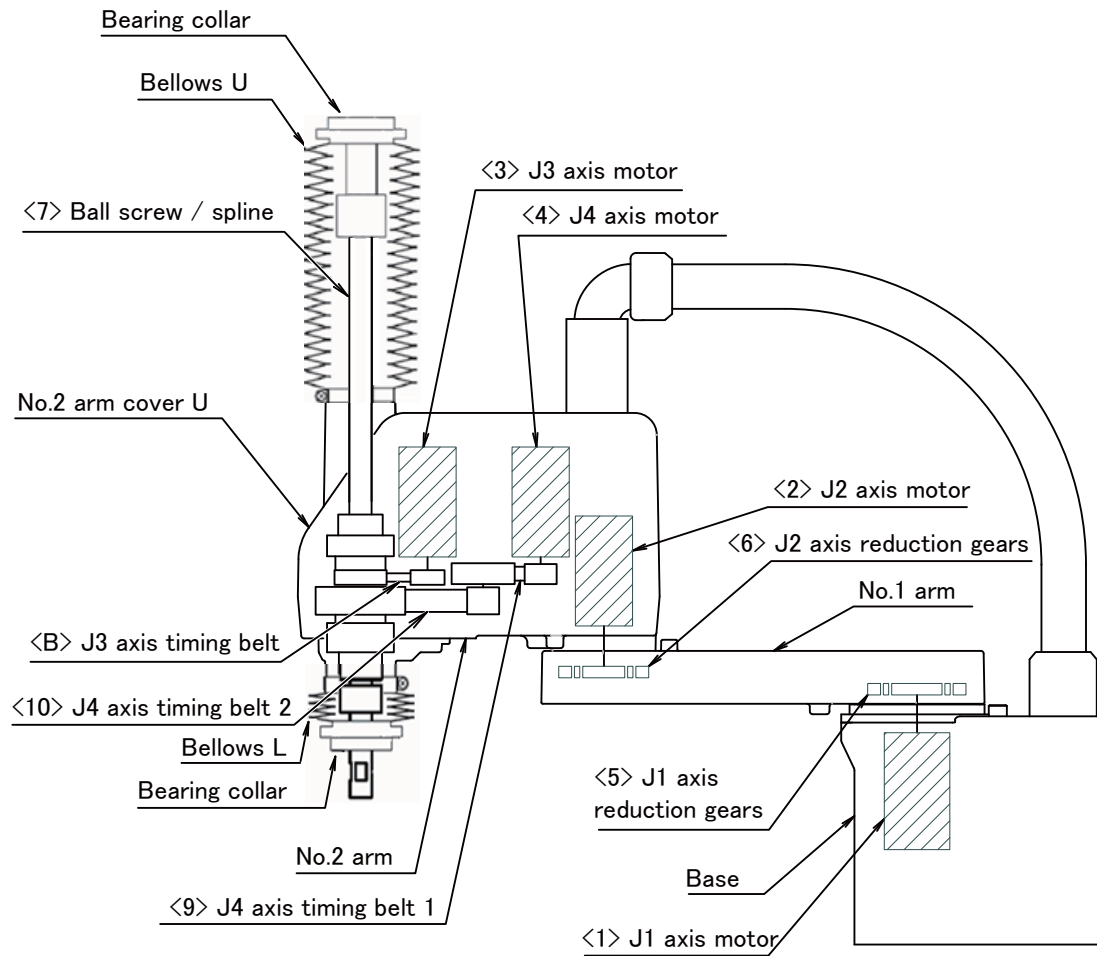

Fig.5-3 : Outline structure drawing of robot arm (RH-3CH-S23/S24, RH-6CH-S23/S24)
- (1) Refer to Fig. 5-4 and Fig. 5-3 to remove the covers.
- (2) The names of the covers are given in Table 5-3.
- (3) When installing the cover after maintenance and inspection, use the procedure of removal in reverse.